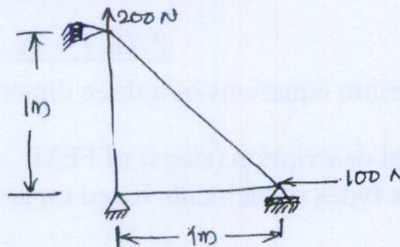

Fig Q6(b)
- b. Determine the nodal displacements in the truss segments subjected to concentrated load as shown in Fig Q6 (b). Take  $E = 70\text{GPa}$   $A = 0.01\text{ m}^2$ . (10 Marks)